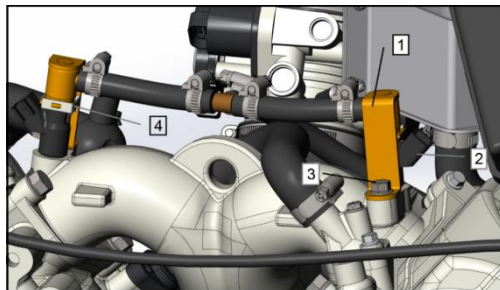

Fig. 22
3. Use a 10mm angle wrench to unscrew the bolt (position 3, Fig. 22, 23).
5. Remove the clip (Pos. 4, Figures 22 and 23) from the nozzle, and remove the nozzle (Pos. 1, Figures 22 and 23) from the nozzle cover.